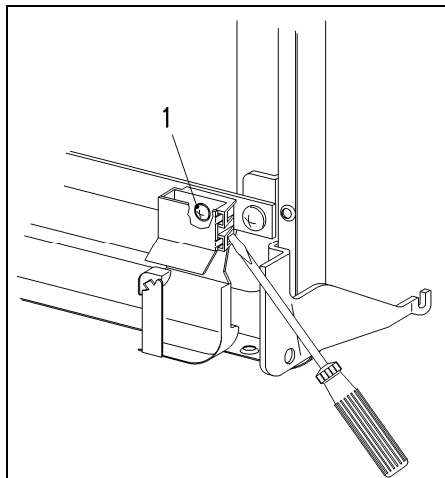

Figure 5-14: Cable Holder Removal
3. Remove the raised-head screw (Figure 5-14, Item 1).